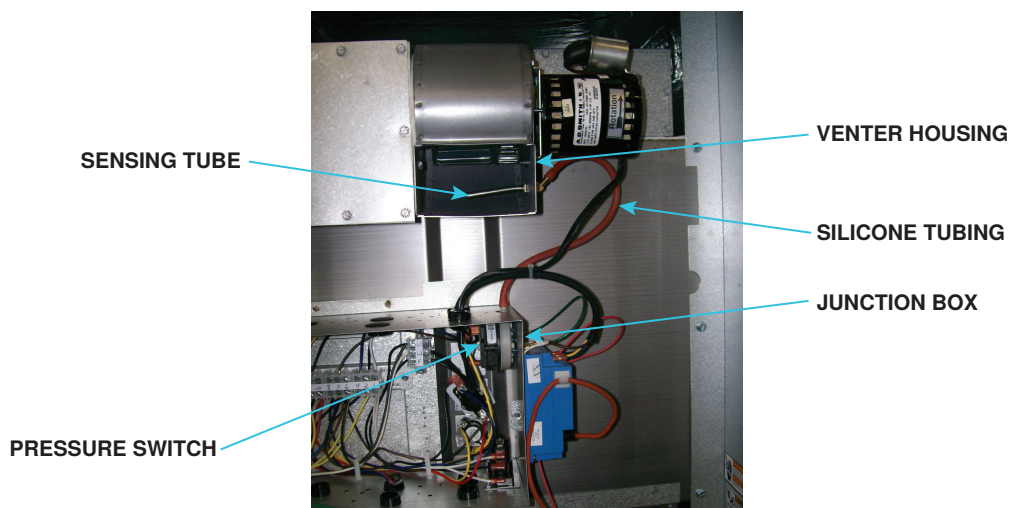

Figure 35. Replacement Pressure Switch Location
- (1) Disconnect sail switch wires.
- (2) Remove screws that secure sail switch and sail switch mounting bracket and remove switch and bracket from venter housing.
4. Install replacement sensing tube (6):
- a. Locate hole where original sensing tube (model RP) was located or where sail switch (model RPV) was located and position replacement sensing tube (6) inside venter housing with end sloped downward (see Figure 35).
- b. Secure sensing tube (6) to venter housing using brass locknut (4) outside of housing and hex panel nut (5) inside of housing.
- a. Position switch (2) inside junction box (see Figure 35) with tubing barb on top.
- b. Using switch (2) as template, mark and carefully drill 3/8-inch (minimum) hole in top of junction box.
- c. With pressure switch (2) tubing barb through hole in top of junction box, secure switch to junction box using two sheet metal screws (3).
6. Connect sensing tube (6) to pressure switch (2) using silicone tubing (7). Ensure that both connections are secure.
7. Connect replacement wiring assembly (1) as follows:
- a. For model RP, connect existing wires in junction box to replacement pressure switch (2) or disconnect existing wiring in junction box and make identical connections to wire assembly (1).
- b. For model RPV, disconnect and discard sail switch wiring and make identical connections to wire assembly (1).
8. Connect wires from junction box to pressure switch (2) as follows: red wire to normally closed (NC) terminal, black wire to normally open (NO) terminal, white wire to common (C) terminal.